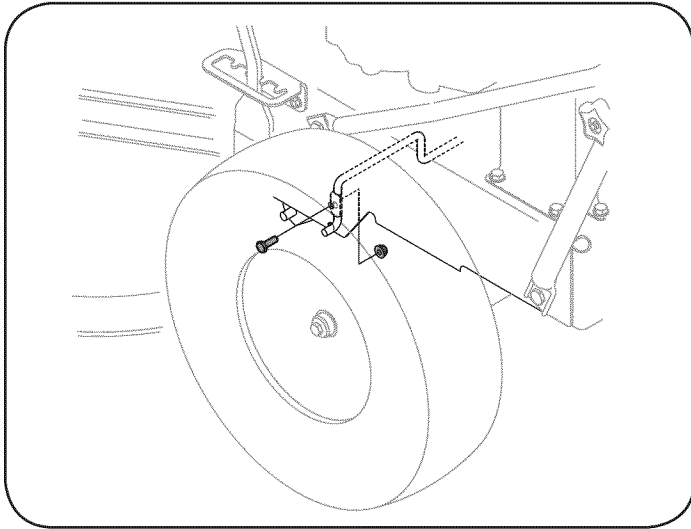

Figure 23
4. Loosen the bolt and nut holding belt keeper rod to frame, Figure 23.